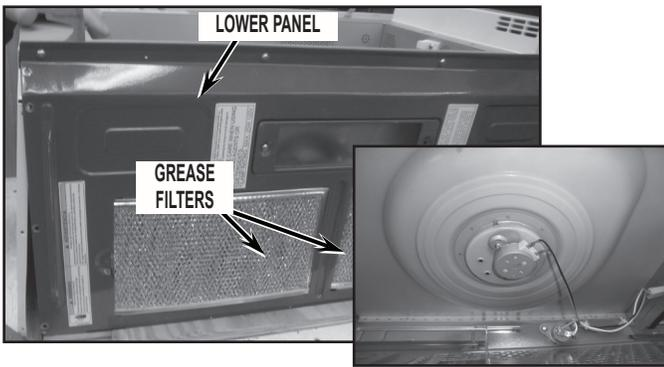

FIGURE 4
- Remove grease filters for hood fan underneath oven cavity. See *Figure 4*.
- Remove lower panel underneath oven cavity. See *Figure 4*.
- Disconnect wiring and set panel aside. See *Figure 4*.